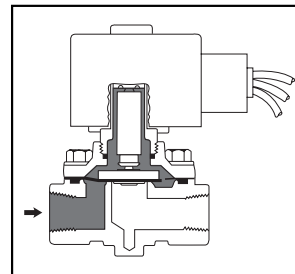

Figure 2A: Pilot Operated, Normally Closed Valve, De-Energized
Internal Pilot Operated Valves (Figures 2A, 2B)
- Floating diaphragm or piston which requires a minimum pressure drop across the valve to remain in the open position (Figures 2A, 2B).